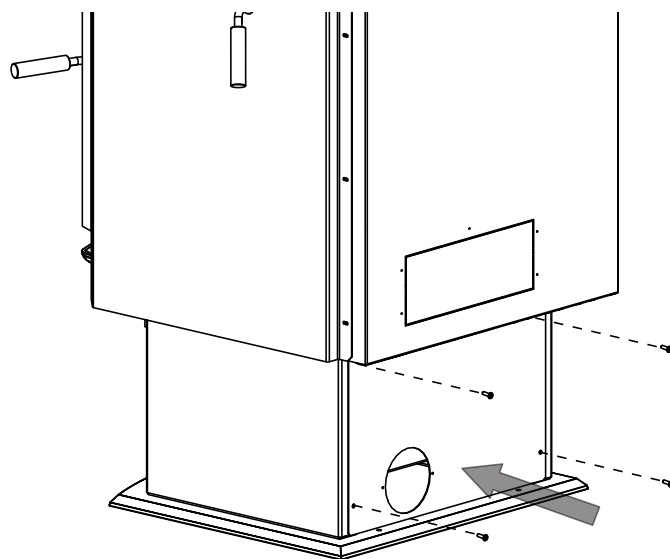

Fig. 2-2
2. Install four screws (supplied) to secure the back plate in position (**Fig. 2-2**).